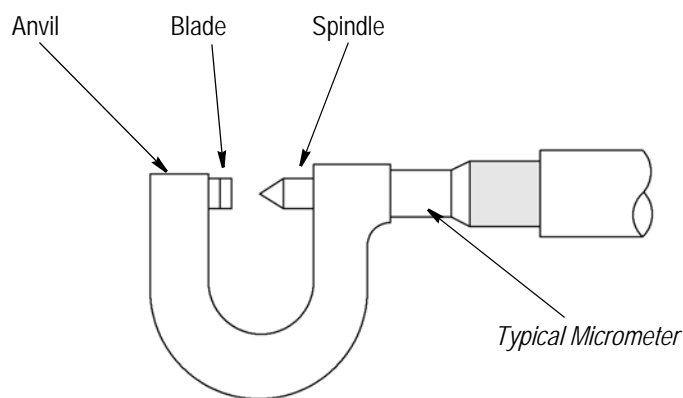
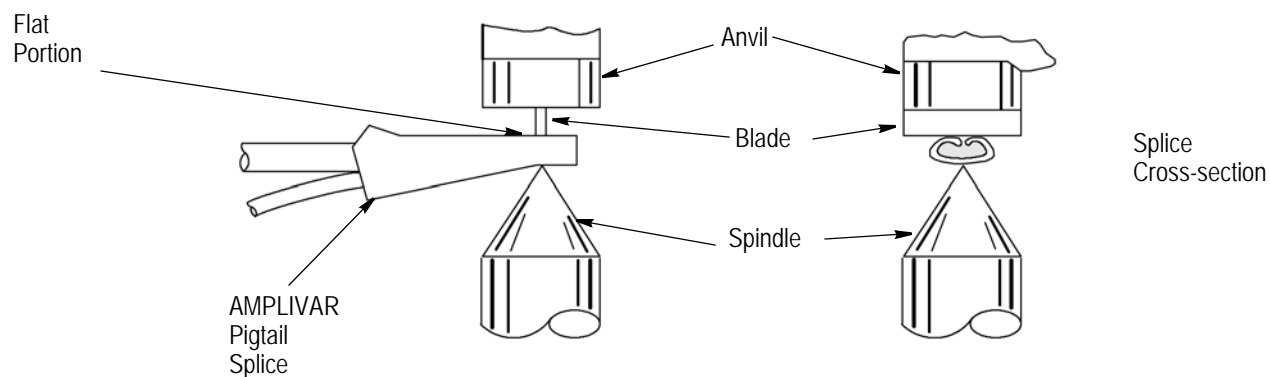

Figure 18
Figure 19
2. Using a crimp height comparator as shown in Figure 18, measure the crimp height of the termination as shown in Figure 19. The crimp height must be within ± 0.08 mm [.003 in.] of the measurement specified for the type terminal and size wire being used, as obtained from your Tyco Electronics Field Engineer.